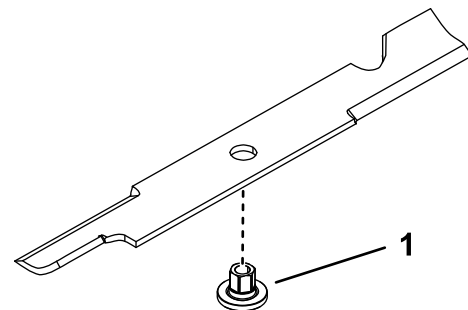

Figure 96
1. Install the bushing through the blade with the bushing flange on the bottom (grass) side of the blade (Figure 96).